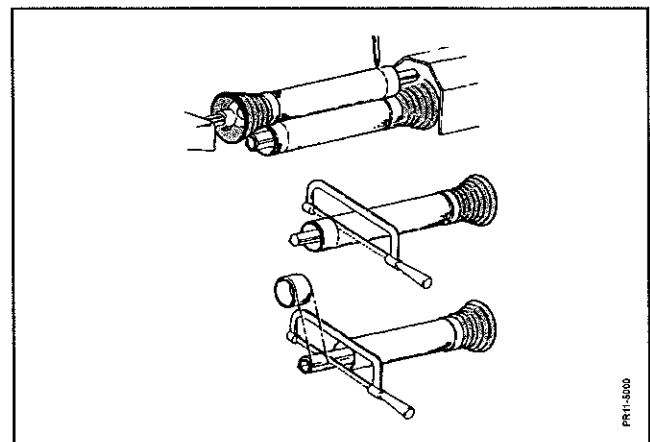

Fig.6
**Fig. 6** When shortening, all 4 tubes must be shortened an equal amount. Remember to deburr the shortened ends. Remove sharp edges/dirt and grease the profile tubes before they are re-mounted.